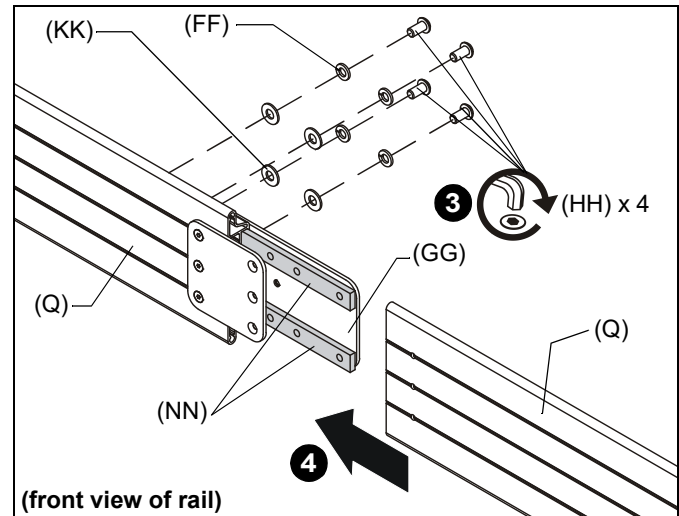

Figure 18
3. Additionally fasten connector plate (GG) using four 5/16 x 5/8" button head cap screws (HH), four 5/16" split washers (FF), and four friction washers (KK). (See Figure 18)
4. Slide second section of mounting rail (Q) over tie bars (NN) and bring it flush to first section of mounting rail. (See Figure 18)